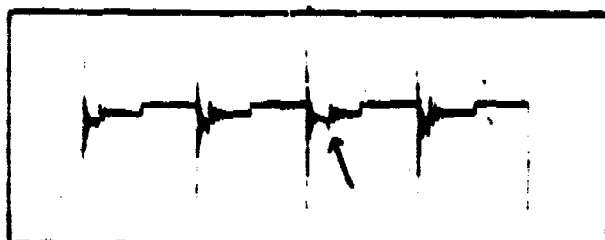

Figure 3-9. Firing Voltage
- d. Observe waveform. The upward peak should be approximately 1/2 the length of downward peak. (See figure 3-9). The spark line should be smooth, and slanted downward.